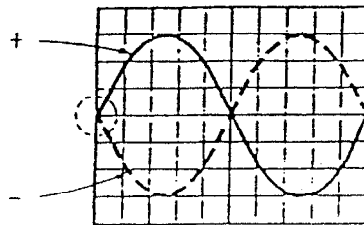

Figure 3-2
- Adjust VR302, SLOPE/TV POL(T-4227, main board) for the sine wave to start at the same vertical point as shown in Figure 3-2.